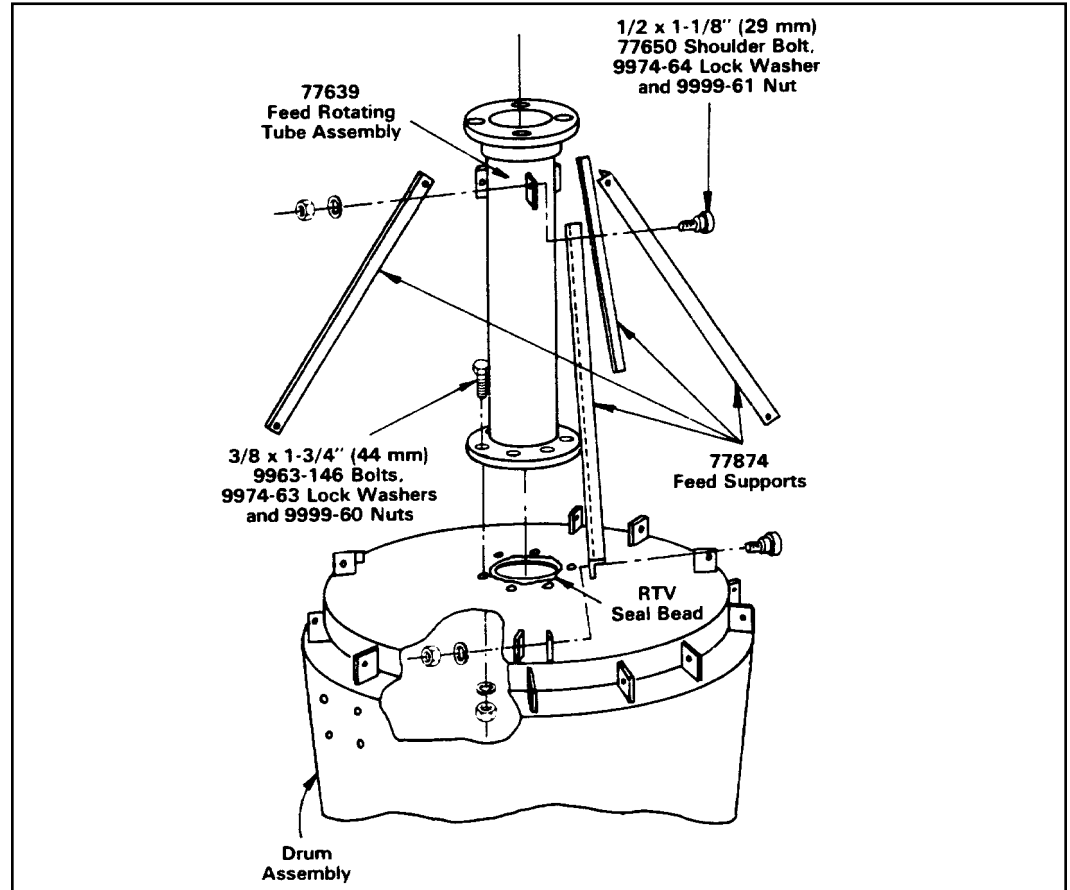

Figure 38
Align tabs on 77639 feed rotating tube assembly with corresponding tabs on drum assembly. Attach rotating tube to center of drum assembly using 3/8 x 1-3/4 in (44 mm) bolts, lockwashers and nuts as shown in Figure 38. Do not tighten.
Step 4 Attach 77874 feed supports between rotating tube tabs and corresponding drum tabs as shown in Figure 38. Fully tighten.